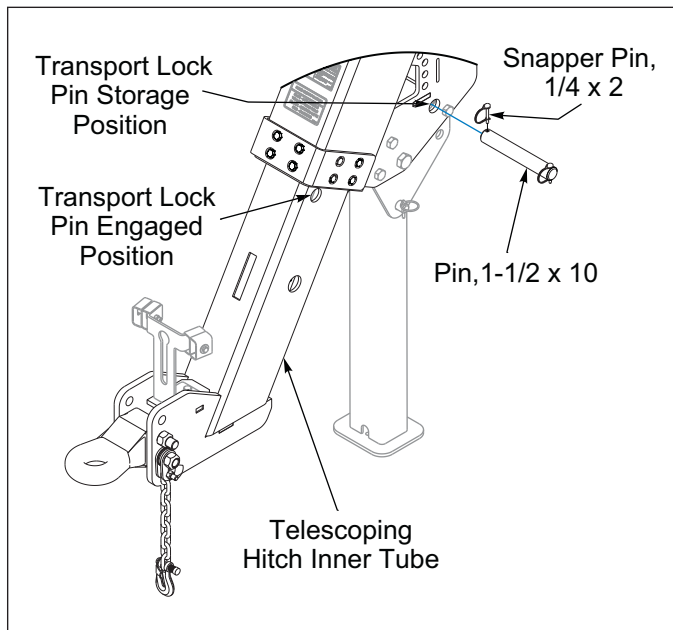

Figure 2-19: Telescoping Hitch Transport Lock Stored
2. Remove Telescoping Hitch Transport Lock Pin and place in storage location. See Figure 2-19.